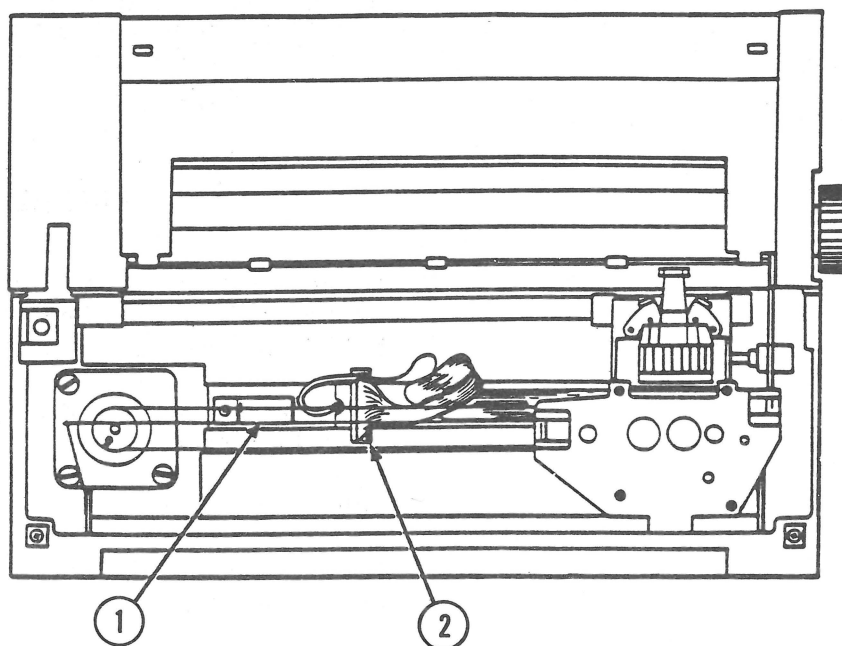

FIGURE 15
4. Loosen, but do not remove, the metal clip (Figure 15, #1) and gently pull up the ribbon until you can reach the print head connector.
5. Gently work free the print head connector (Figure 15, #2). You might use needlenose pliers to grasp the connector.